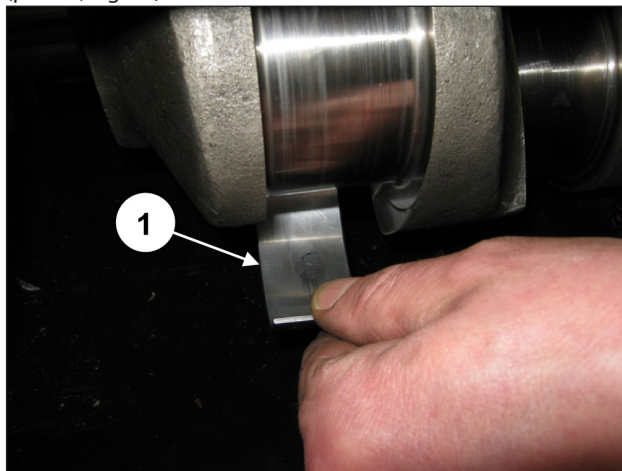

Fig. 20
Remove the three upper half-bearings of the half supports (pos. ①, Fig. 20).